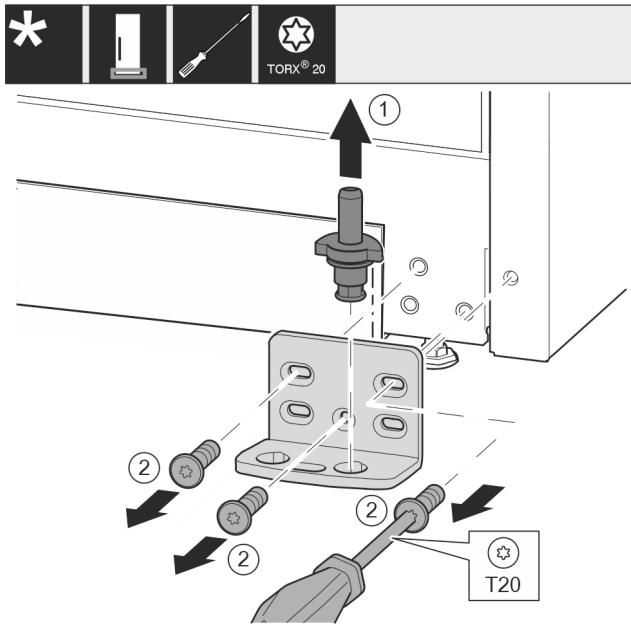

Fig. 16
- Pull the bearing bolt Fig. 16 (1) out upwards completely.
- Use screwdriver to unscrew the screws Fig. 16 (2) and remove the swap bearing block.